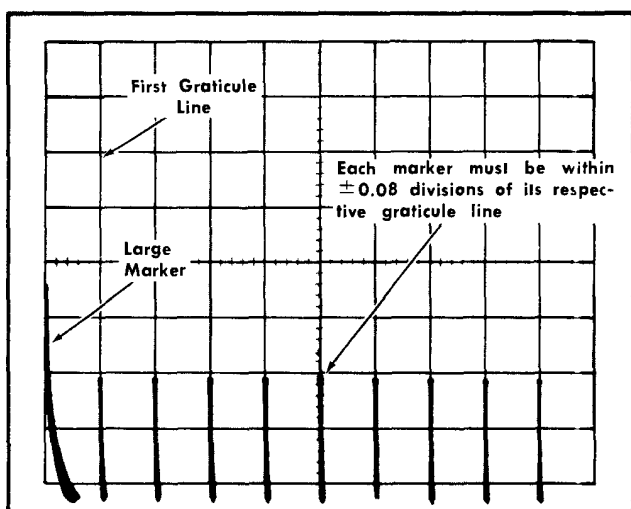

Fig. 5-15. Typical CRT display when checking magnifier timing and linearity.
- CHECK—CRT display for one small marker each division between the first and ninth graticule line (see Fig. 5-15). With the second marker positioned to the first graticule line, the tenth marker must be within 0.4 division of the ninth graticule line (timing within  $\pm 5\%$ ).
- CHECK—Each marker in CRT display must be within 0.08 division of its respective graticule line (1% linearity; see Fig. 5-15).